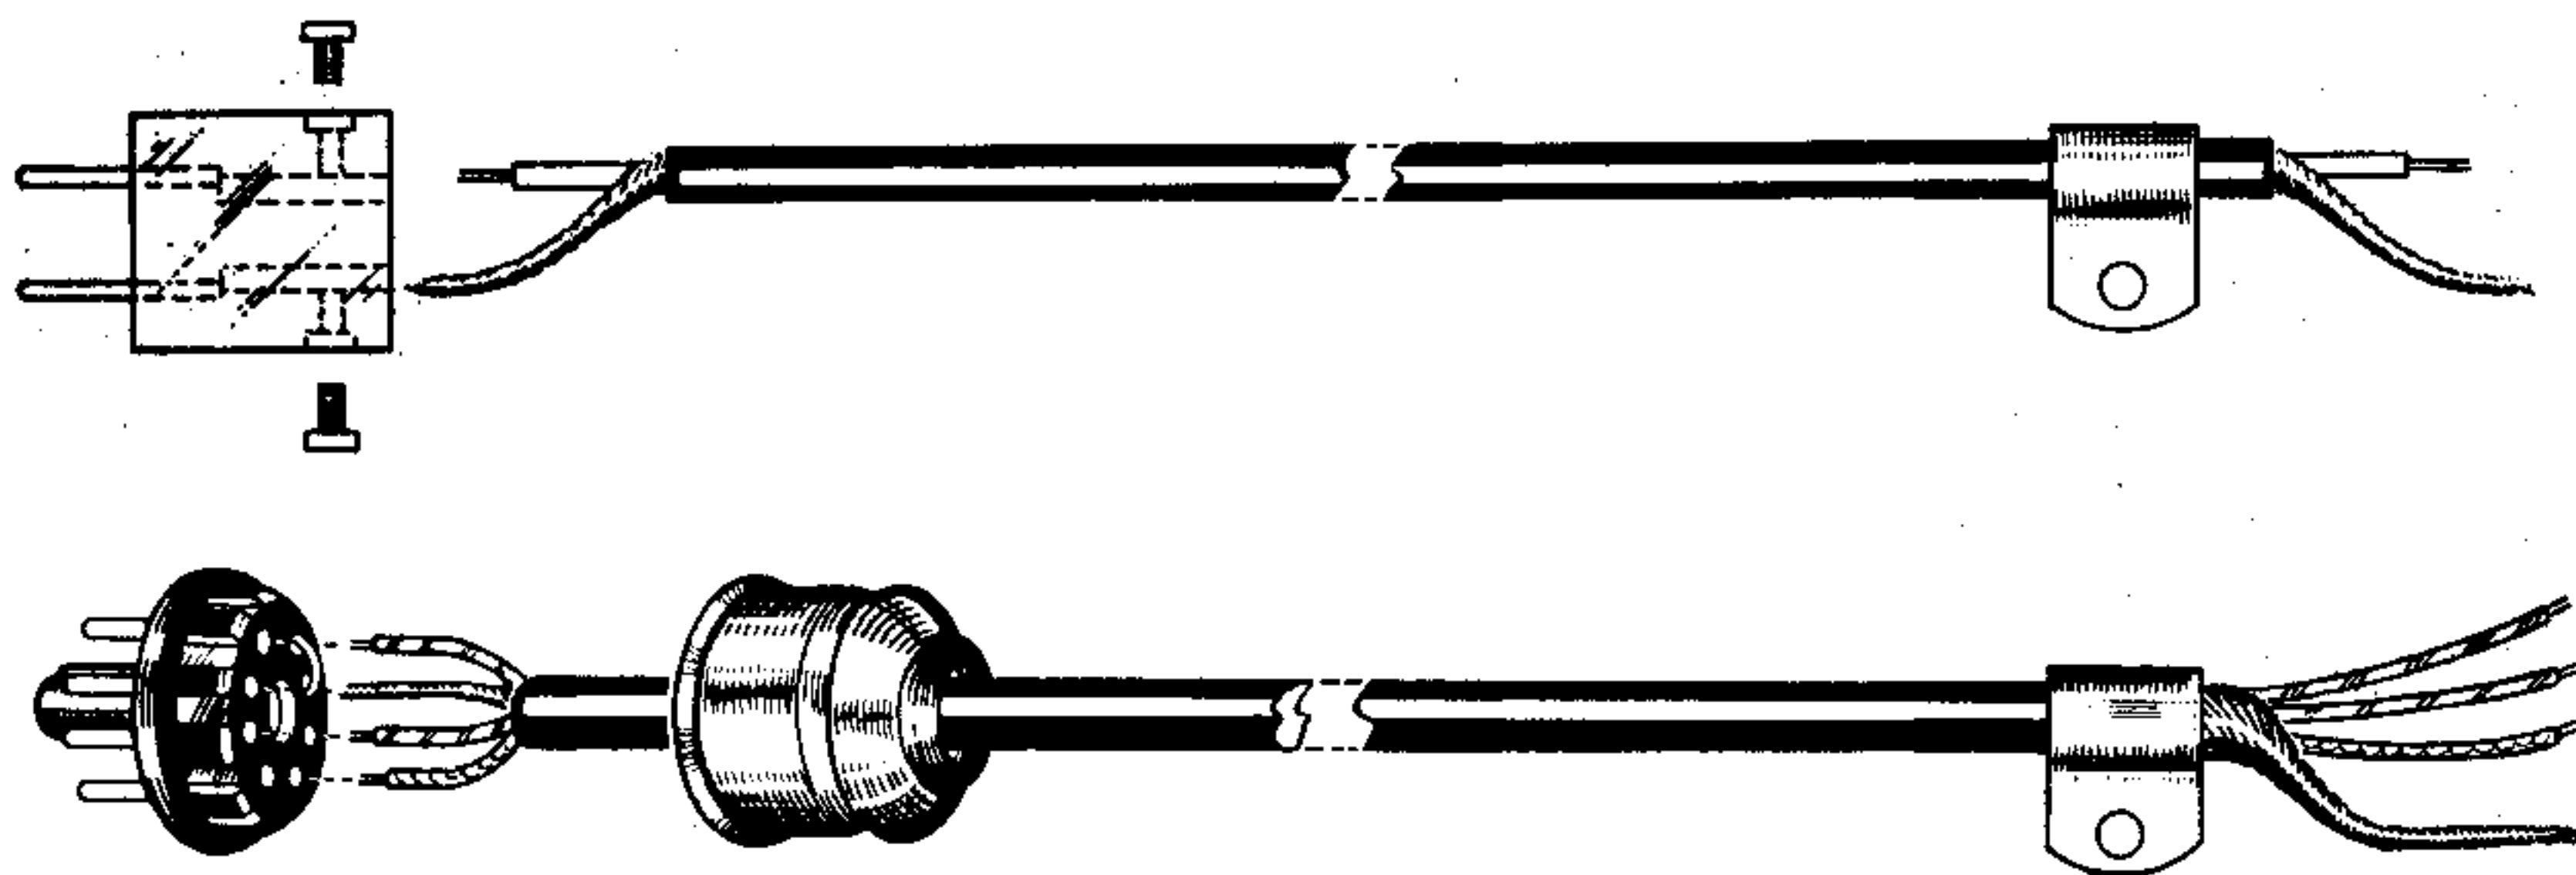
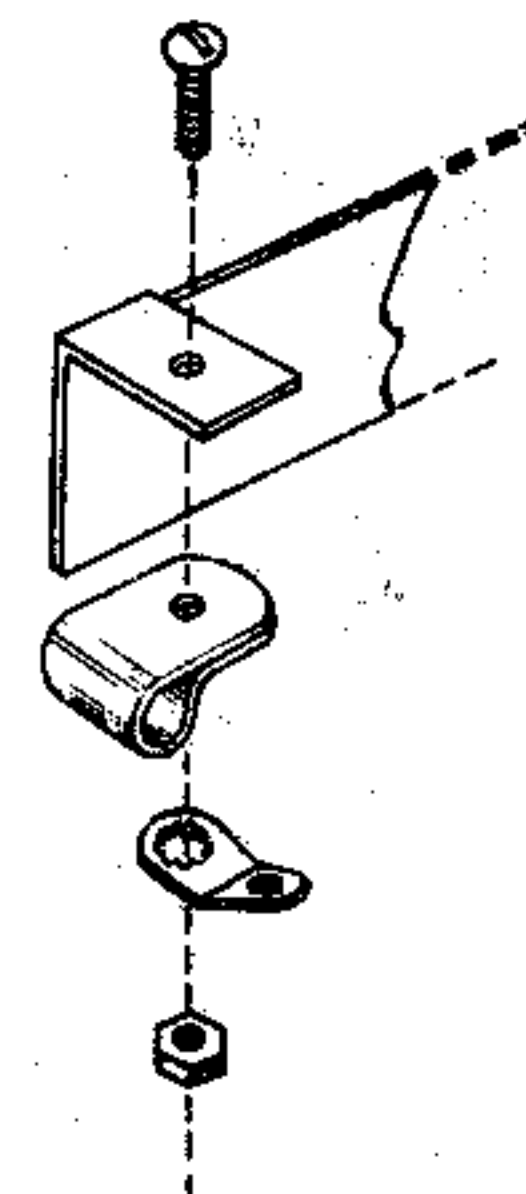

Figure 8.
Figure 9
- ~~X (✓) Strip 1" of the outer coating from both ends of the coaxial cable, comb out and twist the shield braid as shown in Figure 8.~~
- X (✓) Mount the cable clamp to the clamp bracket and include a soldering lug in the mounting as shown in Figure 9.
- X (✓) Connect a .005 disc ceramic capacitor from the solder lug (NS) to G1 (NS).
- X (✓) Twist the shield braid together and connect to the solder lug (NS).
- X (✓) Connect the inter coax conductor to the 100 $\mu\mu\text{f}$ capacitor coming from A5 (NS). See Pictorial 3.
- (✓) Connect a 47 K Ω resistor (yellow-purple-orange) from this point (S) to the solder lug (NS).
- (✓) Connect a bare wire to the same solder lug (S). Run the wire along the back of the chassis through G3 (S). Leave 1" extended free past G3.
- (✓) Connect free end of the 1.1 mh RF choke to G1 (S).
- (✓) Place a 1/4" cable clamp over the outer covering as shown in Figure 9.
- (✓) Insert the cable through grommet E2 and secure the cable clamp and a solder lug to the bracket in the same manner used with the coaxial cable. See Figure 9 and Pictorial 3.
- (✓) Twist the shield braid together and connect to the adjacent solder lug (NS). Cut off excess braid.
- (✓) Connect the wire coming from G3 to the solder lug (S).
- (✓) Connect the red wire to J2 (S).
- (✓) Connect the green wire to J4 (S).
- (✓) Connect the yellow wire to J1 (S).
- (✓) Refer to Figure 8 and prepare the remaining end of the coaxial cable as shown.
- (✓) Slide the octal socket cap over the wire as shown in Figure 8 with the large end toward the wire end.